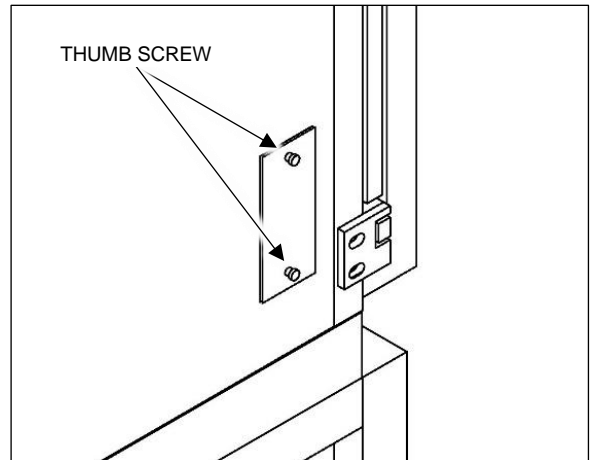

Figure 6-3
3. Remove the halogen light access panel located on the left side of the rotisserie by loosening the thumb screws by hand (Figure 6-3).